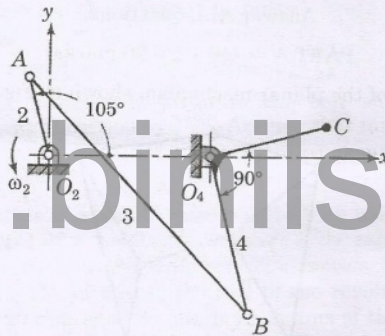

Fig. 2
12. (a) The four-bar linkage in the posture shown in Fig.2 is driven by crank 2 at  $w_2 = 48 \text{ rad/s ccw}$ . Find the angular velocity of link 3 and the velocity of point C on link 4. The dimensions of different links are as follows:  $AO_2 = 100 \text{ mm}$ ,  $BA = 400 \text{ mm}$ ,  $O_4O_2 = 200 \text{ mm}$ ,  $BO_4 = 200 \text{ mm}$  and  $CO_4 = 150 \text{ mm}$ .